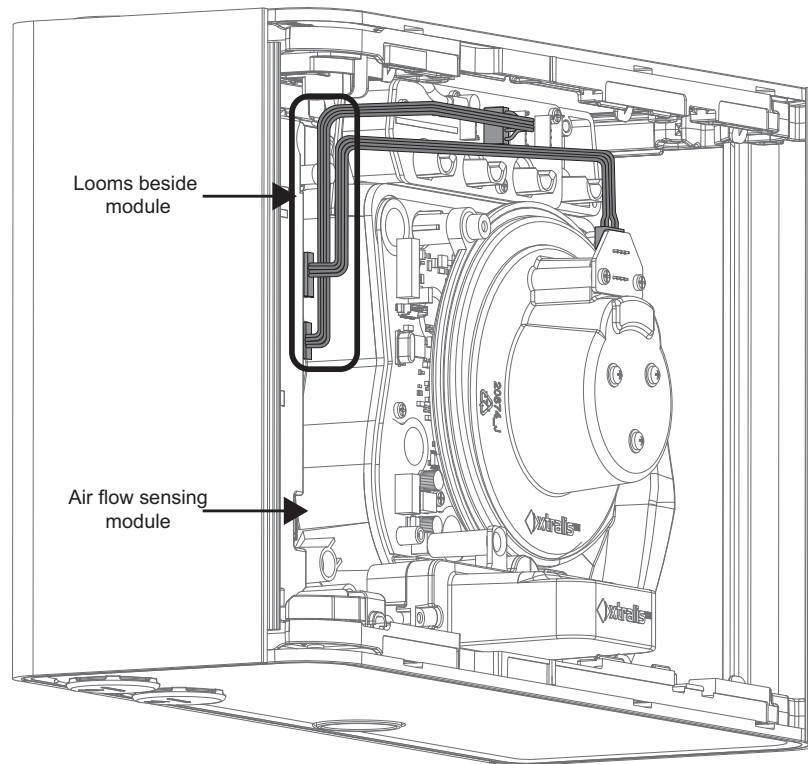

Figure 7-13: Position the gray loom
1. Position the two indicated looms as shown in Figure 7-13. Position the indicated loom sections beside the air flow sensing module, not on top of it. This will ensure that, when installing the chamber, the looms are not caught between the chamber and the air flow sensing module.